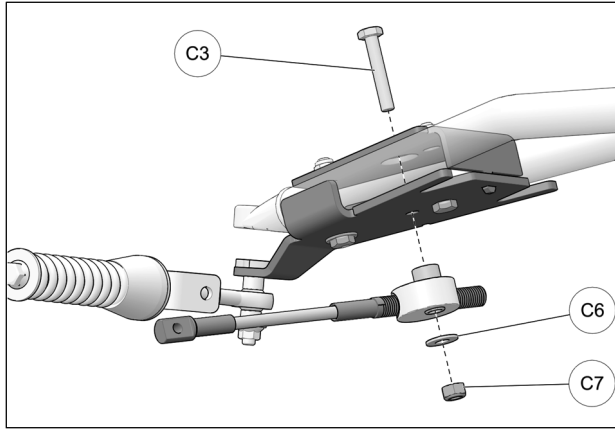

Fig. 22
11. Pass bolt (C3) down through opening in bracket cover and insert it in the anchor bracket's central hole. Slip steering limiter cable assembly over bolt (C3) and use washer (C6) and nut (C7) to secure assembly to anchor bracket. Tighten nut to 50 N•m [37 lb•ft]. Refer to Fig. 22